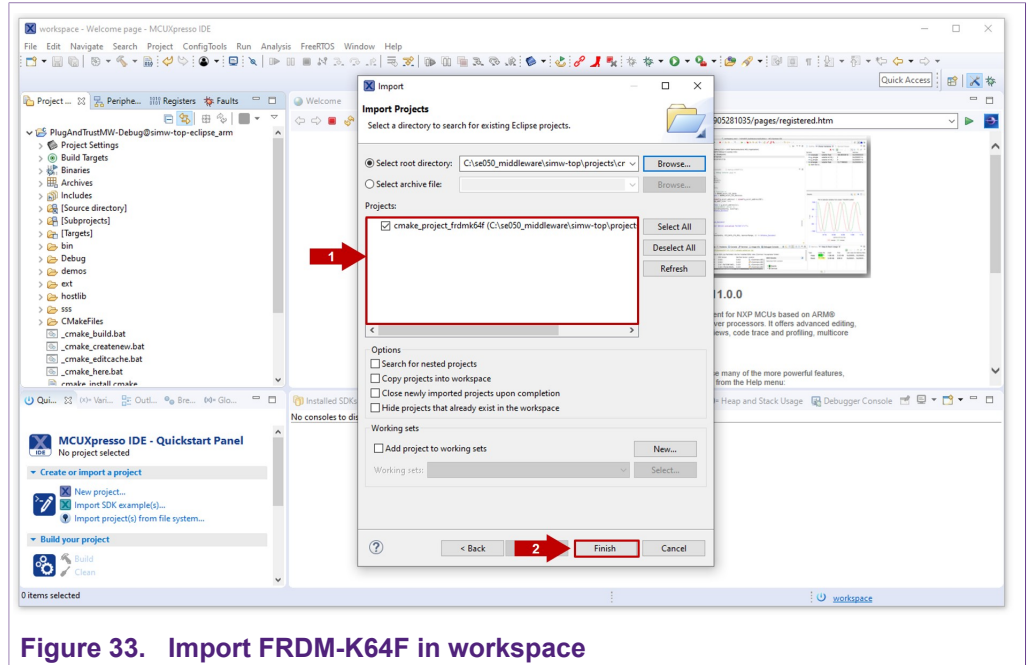

Figure 33. Import FRDM-K64F in workspace
- 4. After selecting `C:\se050_middleware\simw-top\projects` folder, the `cmake_projects_frm64f` project should be visible in the "projects" area. Click *Finish* button to import this project into your workspace as shown in Figure 33: